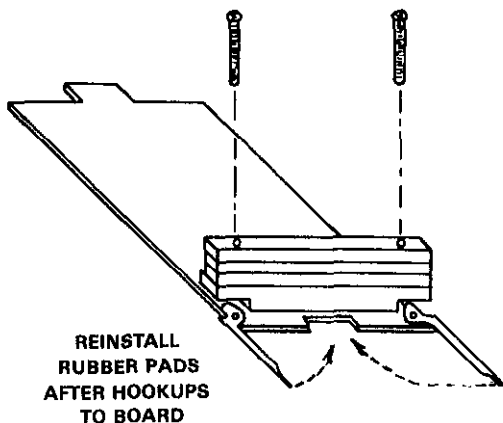

Figure 2. Plug-In Board Assembly
1. The clamp-type screw terminals will accept #18 to #36 AWG (0.044 to 0.005 inch) wire. Figure 2 shows the mechanical features of the Model 7057A which prevent lead movement after the board is wired.